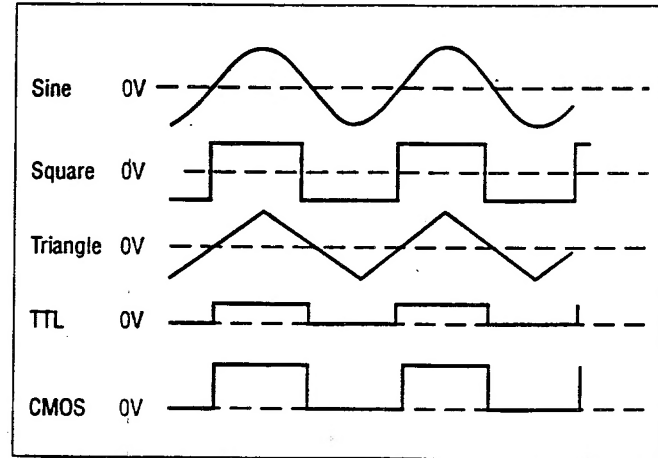

Figure 2. Output Waveform and Phase Relationship
1. Initially, verify that the **DUTY CYCLE** (14), **CMOS LEVEL** (13), **DC OFFSET** (12), **-20dB** (11), switches are in the OUT position (released). This will produce a symmetrical waveform unaffected by the other controls.
2. Plug the unit into an appropriate power source and turn it on by engaging the **POWER** switch (1).
3. Select the desired waveform (**SINE**, **SQUARE**, or **TRIANGLE**) by engaging one of the **FUNCTION** switches (3). Phase relationships of the waveforms are shown in Fig. 2.
4. Select the frequency of the waveform by engaging one of the **RANGE** switches (2). The output frequency is displayed, along with the appropriate measurement units, KHz or Hz (19), on the LED display.
5. Rotate the **COARSE** (16) frequency control to quickly set the output frequency to the approximate desired value. The **FINE** (15) frequency control can then be used to easily set the output to the specific desired value. The frequency selected is available at the **OUTPUT** jack (6). In addition, a digital signal, either **TTL** or **CMOS** is available at the **TTL/CMOS** jack (7) (refer to the "TTL/CMOS OUTPUT" section of this manual).